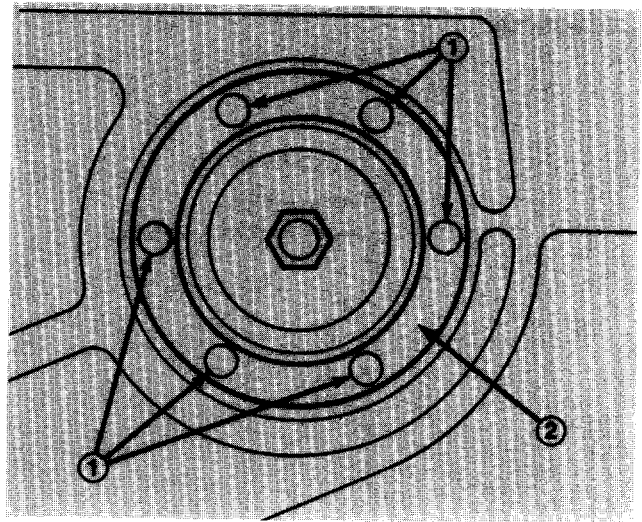

Figure 21
3. Remove six flange bolts and nuts holding spindle housing assembly and support ring against cutting unit (Fig. 21). Slide spindle housing assembly out bottom of cutting unit.
9. Slide pulley end of spindle assembly through hole in cutting unit. Mount spindle assembly in place with support ring and six carriage bolts and flange nuts (Fig. 21).